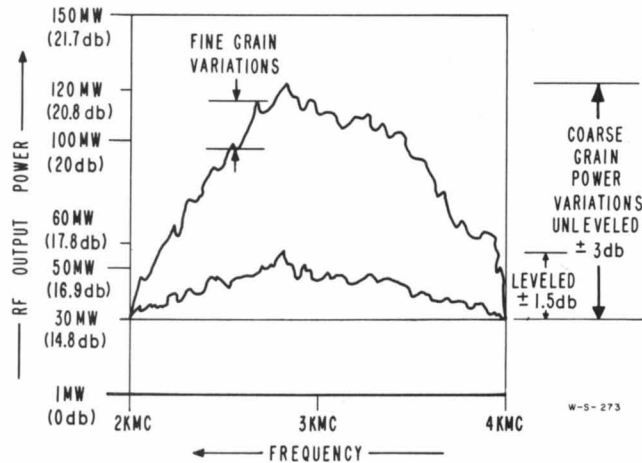

Figure 3-3. RF Leveler Detected Waveform (Leveled and Unleveled Positions)
A. GENERAL. The leveler circuit is an internal device which reduces power variations across the band to ± 1.5 db or less. Leveling action is accomplished by programming the anode voltage to compensate for the coarse grain power variation characteristics (figure 3-3) of the bwo tube.